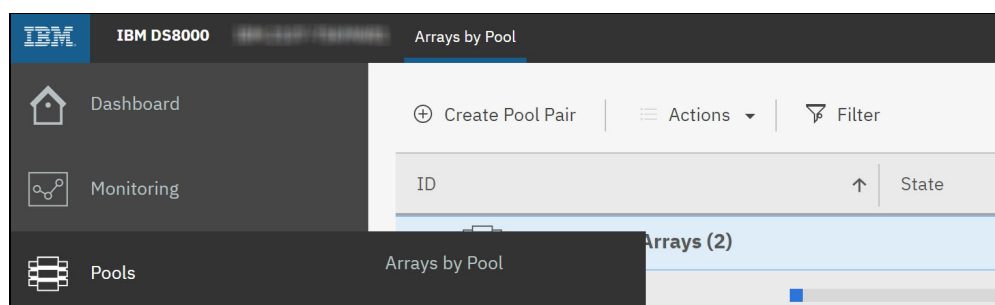

Figure 9-36 Arrays by Pool
1. Click the **Pools** icon and select the **Arrays by Pool** option to open the Array by Pool window, as shown in Figure 9-36.
1. Click the **Pools** icon and select the **Arrays by Pool** option to open the Array by Pool window, as shown in Figure 9-36 on page 272.